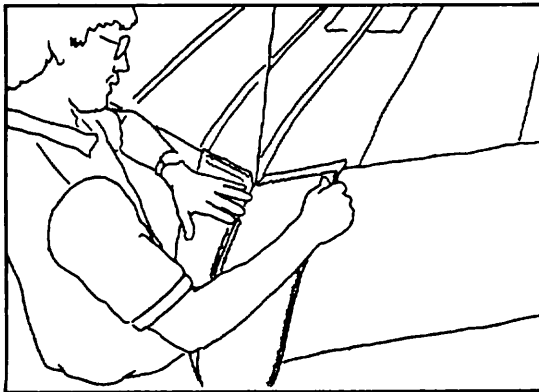

Figure 44
25) Install the nose cone, mating the velcro surfaces together carefully, and making sure that the nose cone lies flat against the sail on both the top and bottom of the sail. (Figure 44, 45)